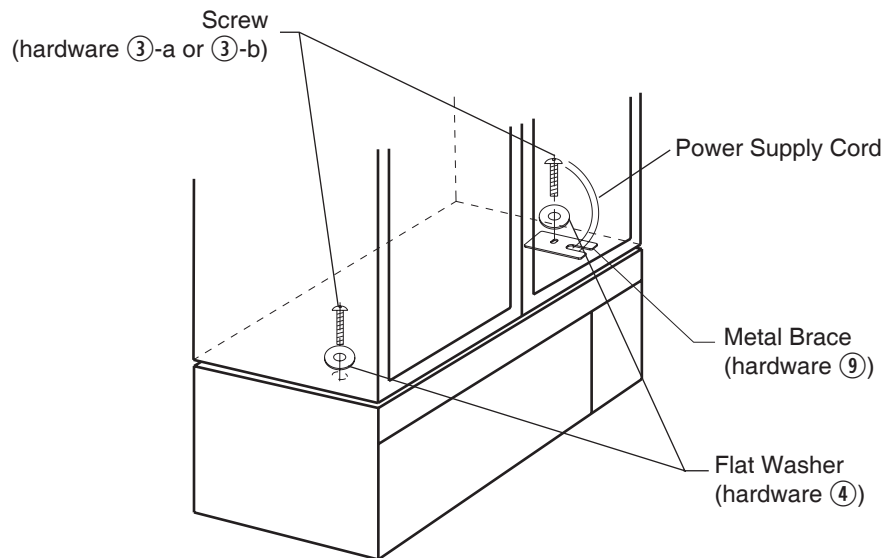

Fig.4-3
6. Insert one screw (hardware items either ③-a or ③-b) with flat washer (hardware item ④) through the left hole drilled through the top cabinet's bottom and into the top of the oven. (Fig. 4-3)
Insert another screw (hardware items either ③-a or ③-b) with flat washer (hardware item ④) and the metal brace (hardware item ⑨) through the right hole into the top of the oven. (Fig. 4-3)